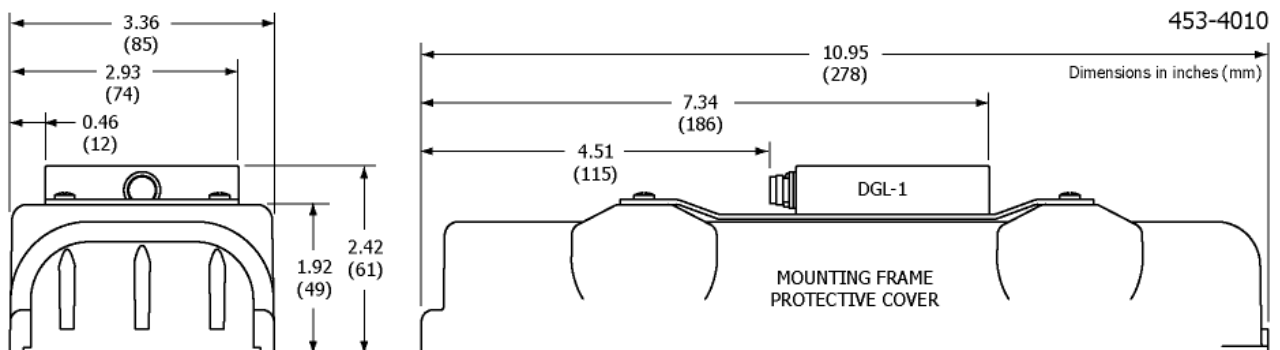

Figure 4 Dongle Outline and Dimensions
- 2) See Figure 4 Dongle Outline and Dimensions.